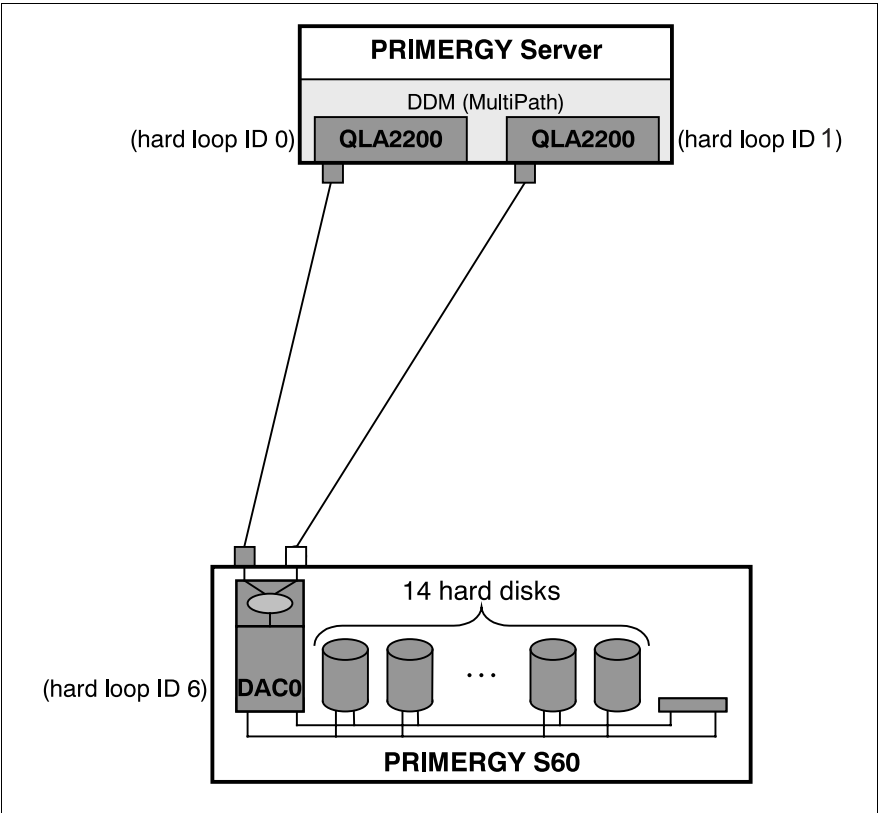

Figure 18: Path Redundancy with Single FFX-RAID Controller
- Loop IDs (see figure 18 on page 25)